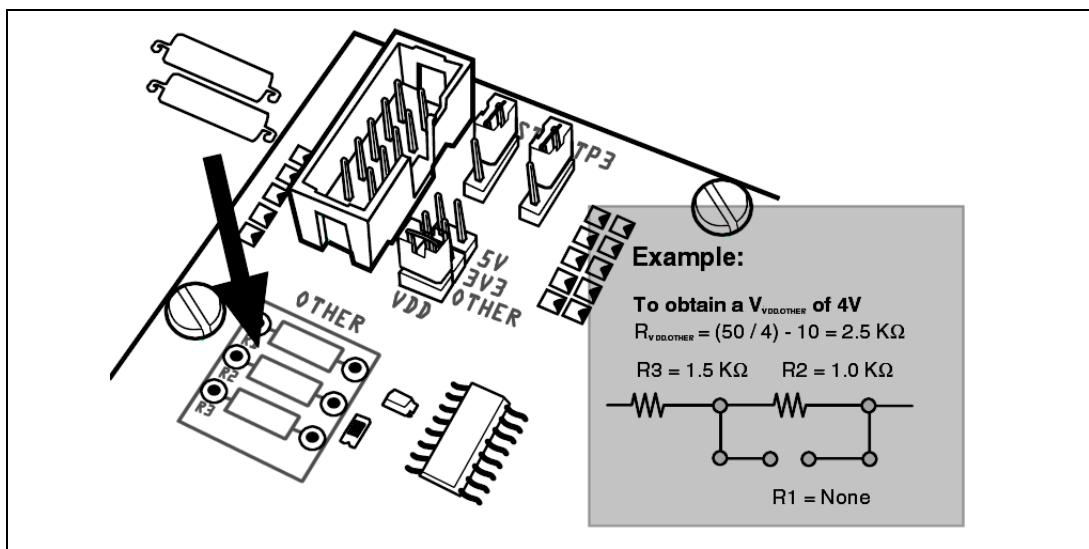

Figure 3: Installing serial resistors
- 2 Install the necessary resistors in the **OTHER** area on the socket board. *Figure 3* shows one possible solution for the example in Step 1.